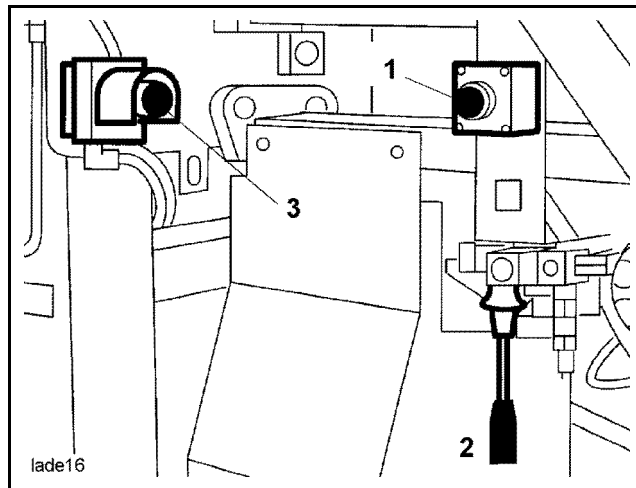

Fig. 623
- Press and hold the release button (1) (**Fig. 623**).
- Move the stowing box up or down with the control lever (2) (**Fig. 623**) until the respective limit stop is reached.
In case of faults or danger, pressing the EMERGENCY OFF button (3) (**Fig. 623**) interrupts the movement of the stowing box.